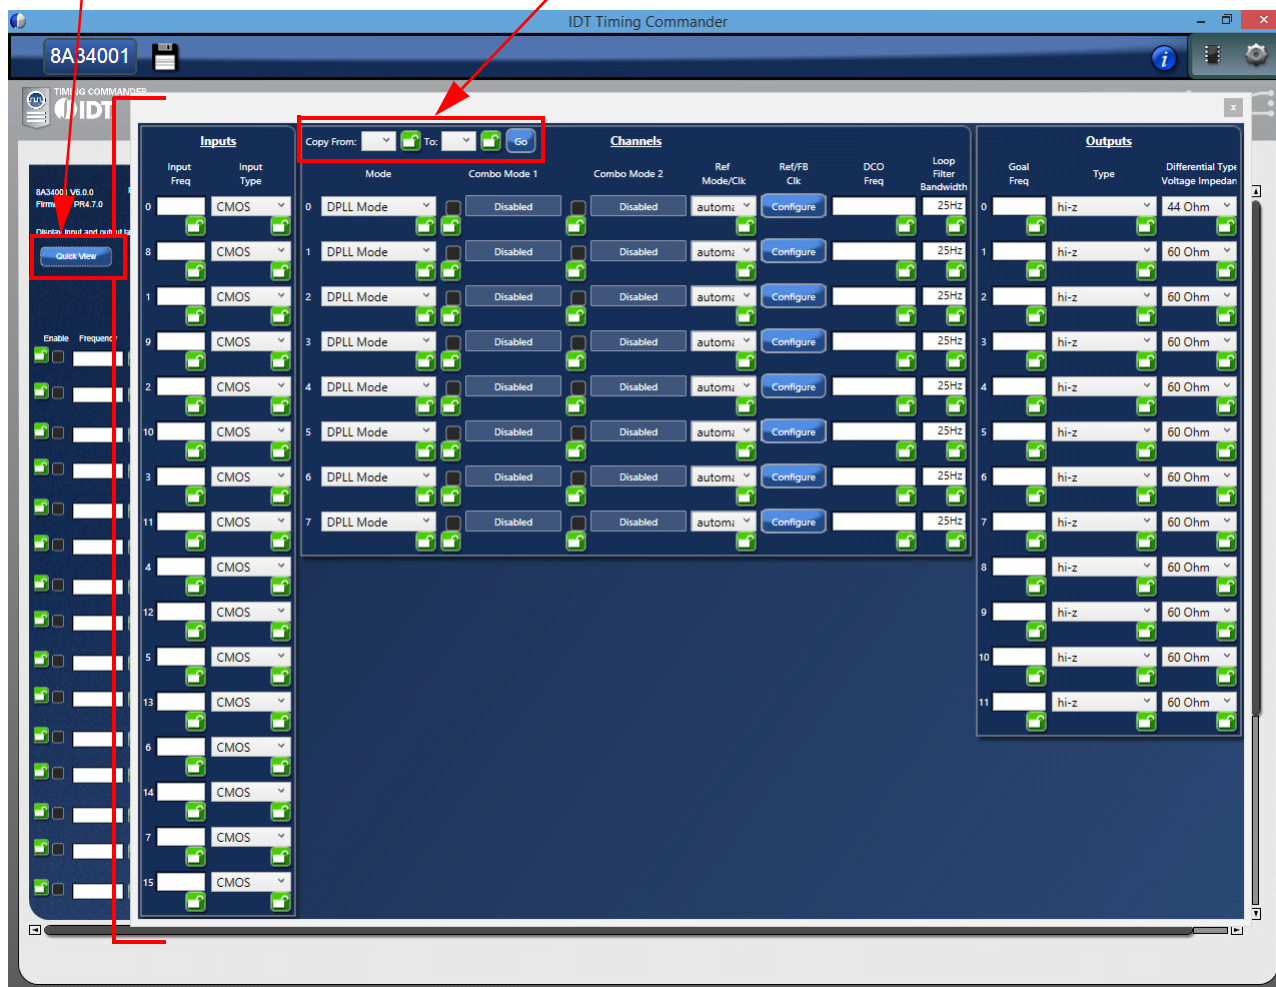

Figure 16. Quick View Button Window
- This button enables quick access to all of the inputs, channels, and outputs (see Figure 16)